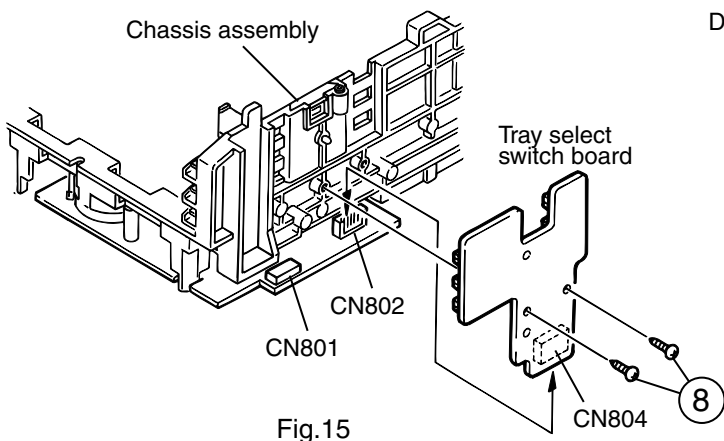

Fig.15
3. Remove the two screws 8 retaining the tray select switch board(See Fig.15).
■ Removing the can unit (See Fig.15~18)
2. While turning the cam gear L, align the pawl "N" position of the drive unit to the notch position(Fig.15) on the cam gear L.